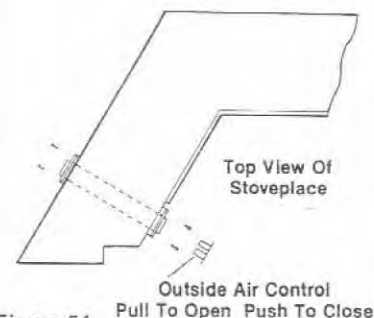

Figure 54
Step 1: Remove cover plates, both inside and outside, from left side of Stoveplace. Slide Combustion Air Kit Adapter through opening with flange on inside of Stoveplace and secure with screws provided. Slide metal plate and gasket over Combustion Air Kit adapter channel protruding through outer jacket of Stoveplace. Secure with screws provided (Figure 54).